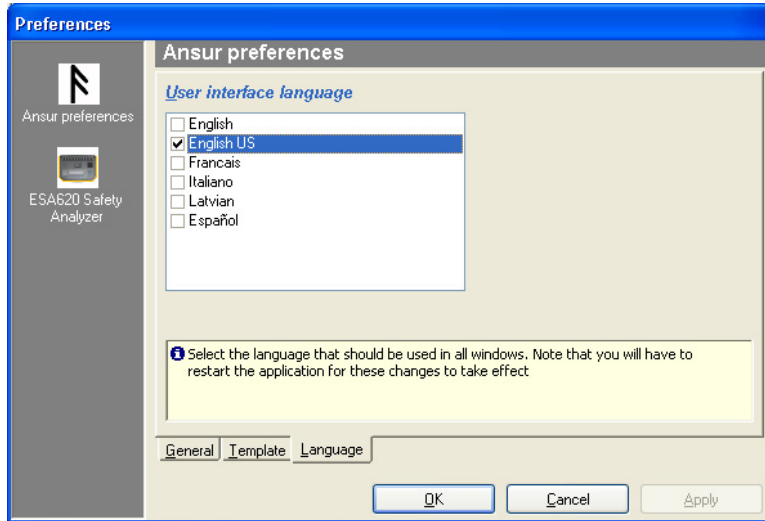

Figure 2-5. Selecting AAMI Terms
3. Select English US from the list. See Figure 2-5.